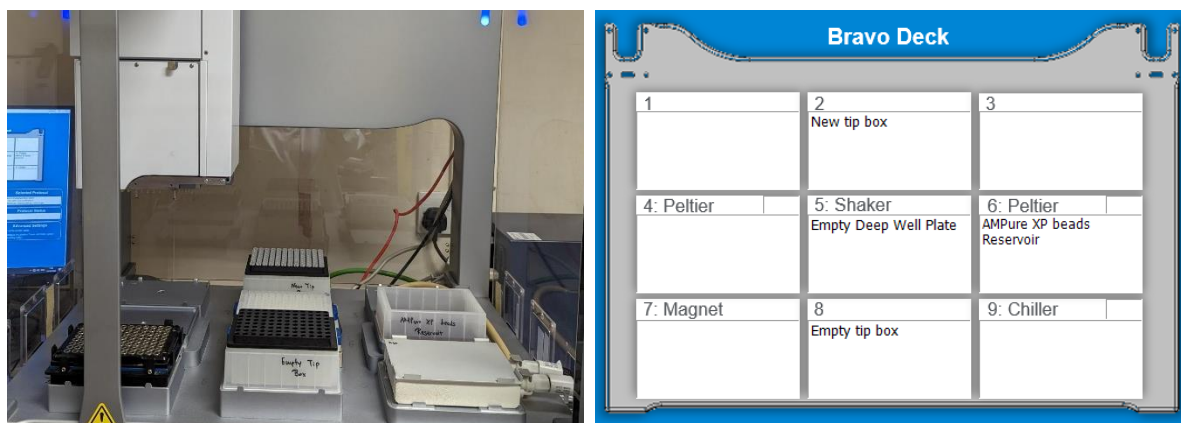

Figure 1. Example of the Bravo deck preparation and computer screen for 'AMPureXP_Aliquot_LibPrep' and 'AMPureXP_Aliquot_LibPrep' protocols.
7. Pour the AMPure XP beads in suspension into the Reservoir and place the reservoir with the beads at Bravo deck 6 position as on **Figure 1**.
8. Place on Bravo a new tip box without the cap (deck 2), empty tip box (deck 8) and empty deep well plate (deck 5) as on **Figure 1**.